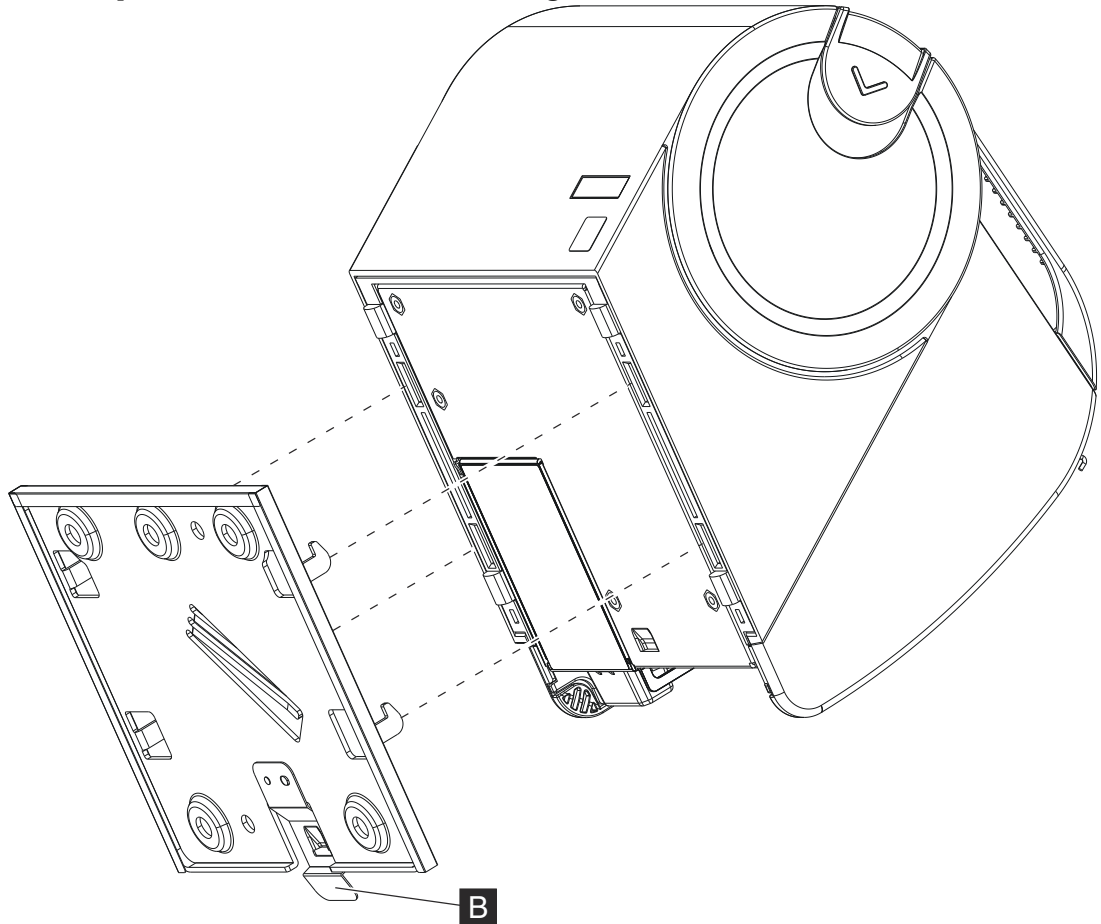

Figure 4. Attaching printer to the wall mounting bracket
1. Press and hold the release latch **B** (see Figure 4).